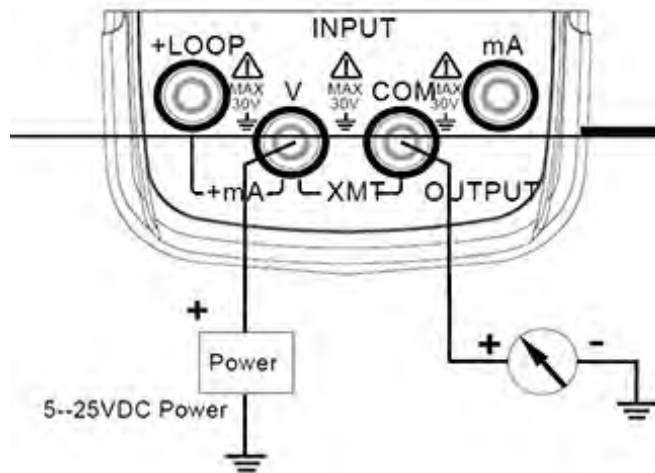

Figure 5-2
- ↪ Insert one end of the test lead to the 'XMT' output jack of the EC mAV 2 and connect the other end to the input terminal of the user's device as shown in the Figure 5-2: